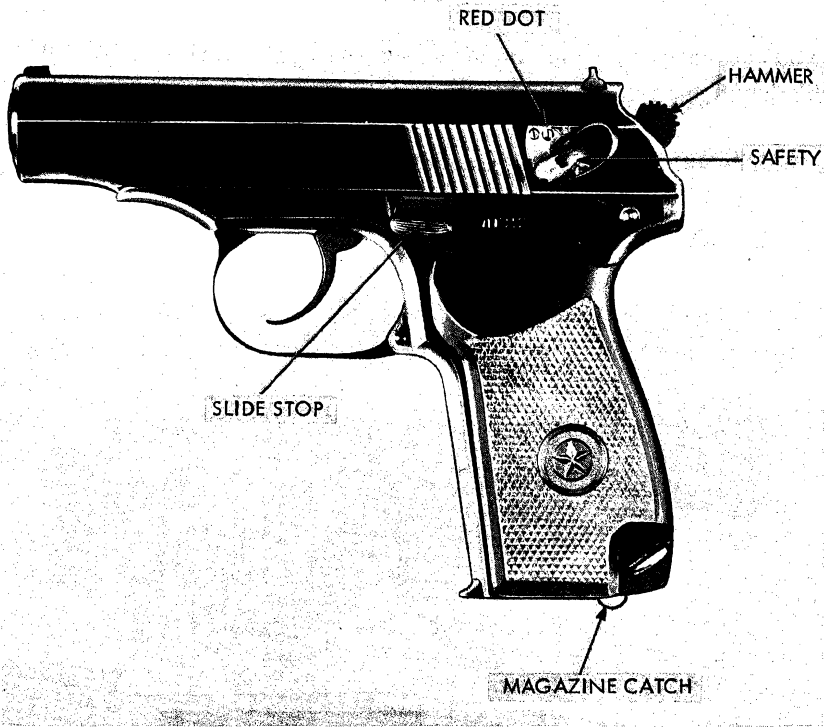

Figure 1. Soviet Makarov pistol (PM).
The Makarov pistol is the standard sidearm of most major Eurasian Communist armies. It is known to be produced in the Soviet Union, East Germany, and the People's Republic of China (PRC). The Soviet version, the PM (Pistolet Makarov), can be identified by its lanyard loop and the encircled star cast into the grips (fig 1). The East German Pistolet M has plain grips and no lanyard loop (fig 2). The PRC version, the Type 59 pistol, has "59 SHI" stamped on its receiver. The Makarov is an eight-shot, semiautomatic, blowback-operated, magazine-fed pistol fitted with a double-action trigger mechanism. In addition to conventional functioning, this mechanism also allows the hammer—if uncocked—to be cocked and released by a single long pull on the trigger. The Makarov fires the 9x18-mm pistol cartridge (sec VI).
b. Insert the magazine into the pistol so that the magazine catch (fig 1) retains the magazine.
c. Rotate the safety (fig 1) downward; grasp the slide by its milled grooves and pull it fully rearward against spring tension. Release the slide; it will return forward, loading the pistol.
d. If desired, set the pistol on safe by rotating the safety upward until the red dot (fig 1) on the slide is covered. The hammer will fall; but because the safety blocks the firing pin, the pistol will not fire.
f. Remove the magazine by pressing the magazine catch away from the magazine and withdrawing the magazine. To close the slide, if open, press down on the slide stop (fig 1); or remove the magazine and pull the slide slightly rearward, then release it.
f. When the last round is fed from the magazine, the magazine follower moves to its highest position. The magazine spring, working through a lug on the lower left side of the follower, then presses the slide stop (fig 1) up against the slide. When the slide recoils, the slide stop enters a notch in the slide and holds it open.